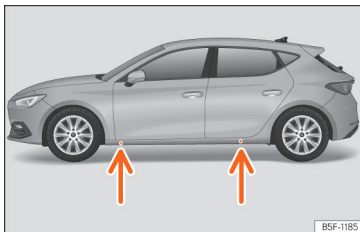

Fig. 248 Jack position points.
- Look on the strut for the mark of the jack support point (sunken area) closest to the wheel to be changed >>> Fig. 248.